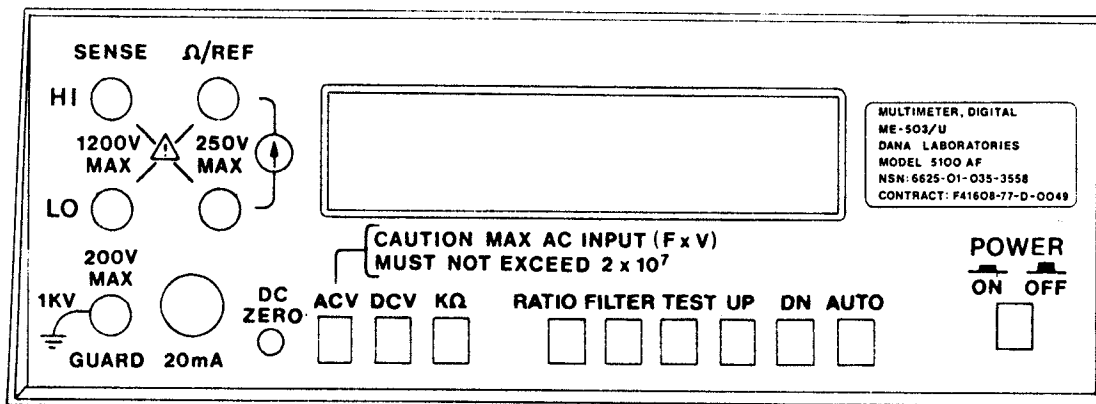

Figure 1.1 - Model 5100AF
1.1.1 The Model 5100AF Digital Multimeter (figure 1.1) is a five digit "Delayed Dual Slope" instrument with a sixth decade providing 100% overrange. Measurement capability is shown in table 1.1. The basic instrument is equipped for dc voltage measurements on five ranges, ac voltage measurements on four ranges and resistance measurements on six ranges. The basic instrument is also capable of measuring ratio of two DC voltages (3-wire connection). The instrument is equipped with an Averaging AC Converter.